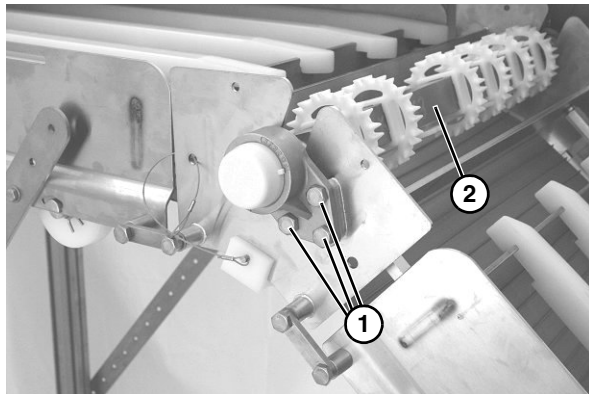

Figure 66
1. Remove three bolts (**Figure 66, item 1**) on each side, and remove spindle assembly (**Figure 66, item 2**) from knuckle.